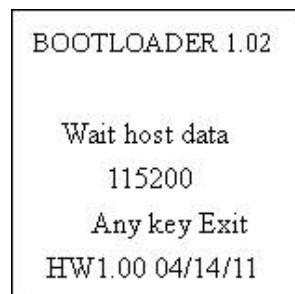

Fig 1
1. Press **F1 + F2 + PW** when the device is off to enable the Bootloader function as shown in Fig 1.